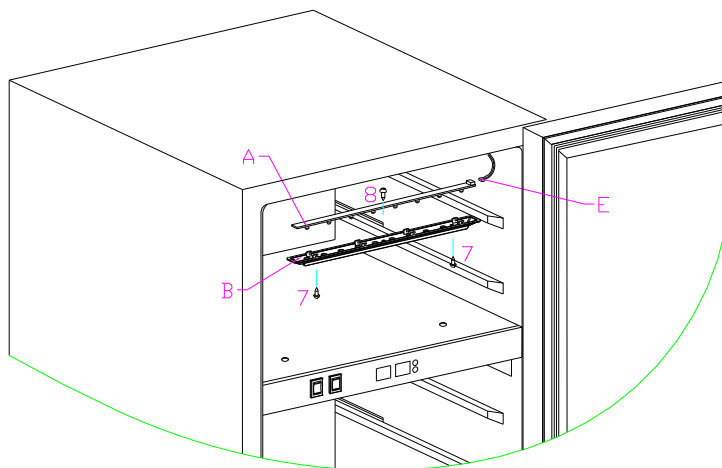

Fig. 16
1. How to replace normal dual temperature wine cellar's upper LED light (Fig.16)
2>. Remove the two screws (7) which on light cover (B), then take out the light cover (B) (Fig.16)